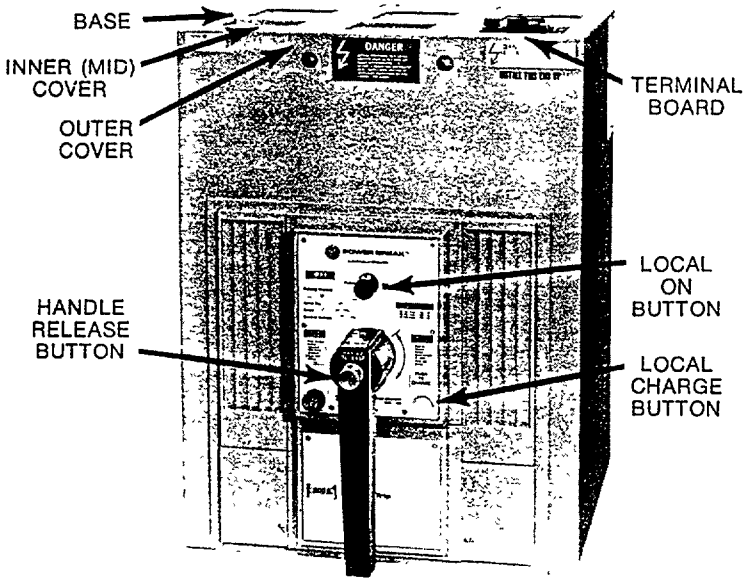
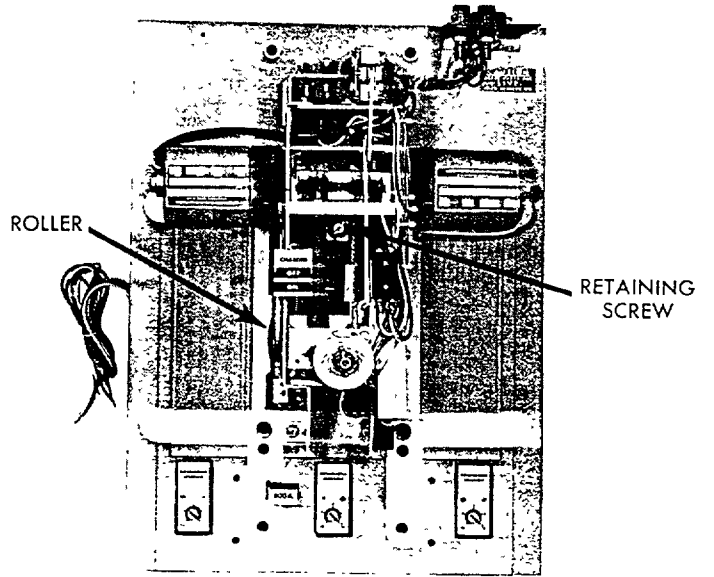
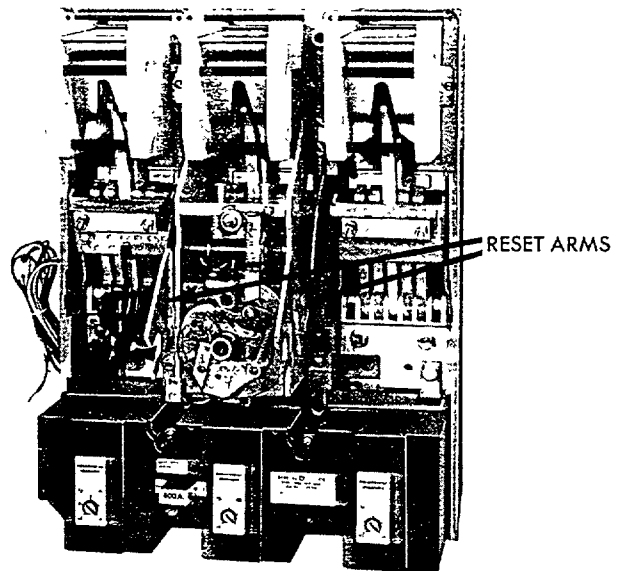

Fig. 4. Magnetrip electrical circuit breaker
Fig. 6. Inner cover assembly
Fig. 7. Breaker base and mechanism
- a. Disconnect all external leads from the terminal board. See Fig. 4.
Unscrew the inner cover retaining screw, Fig. 6, and remove the inner cover assembly from the breaker base.
- a. Slide the inner cover and motor-power unit assembly onto the breaker base and mechanism. Ensure correct alignment of the handle shafts (cam shaft and extension shaft) and that the reset arms as shown in Fig. 7 engage the grooves in the rollers shown in Fig. 6.
- b. Tighten the inner cover retaining screw shown in Fig. 6.
- a. Install the breaker outer cover (4 screws). See Fig. 4. Be sure that the terminal board slides into the slots in the circuit breaker cover. See Fig. 6.
- b. Install the escutcheon plate (4 screws). See Fig. 4.
- c. Reconnect the power leads at the terminal board. See Fig. 4.